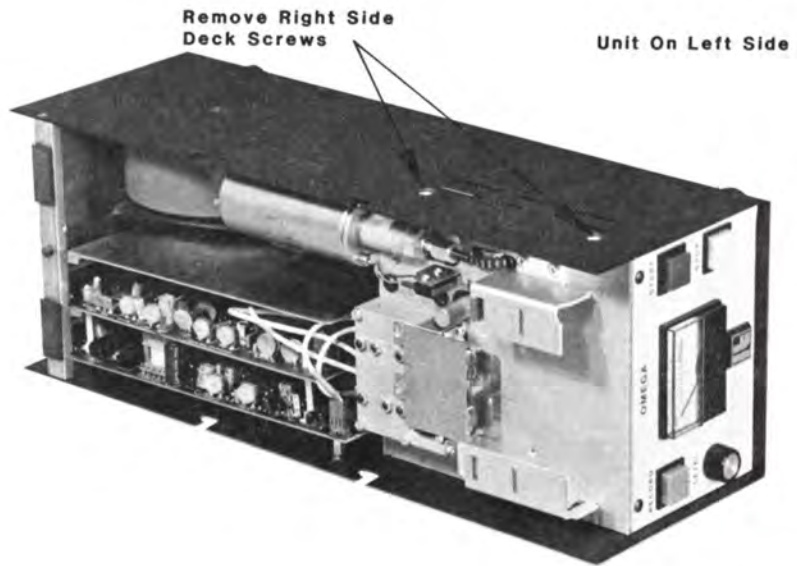

Fig. 5-5
B. Gently turn the machine on its LEFT side and remove the RIGHT side deck mounting screws. Figure 5-5.